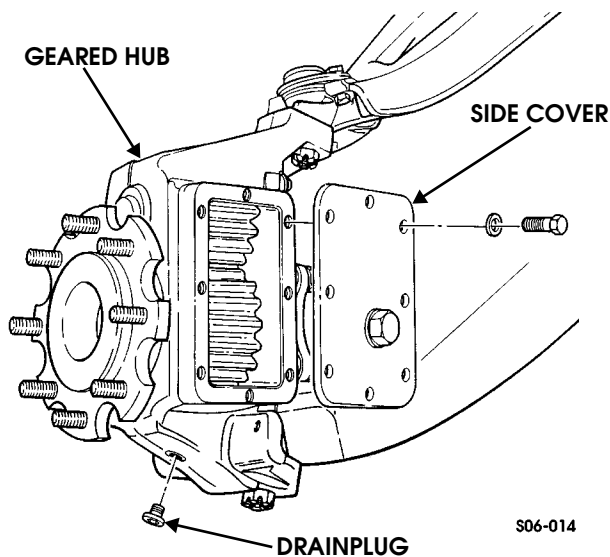

Figure 9-17: Geared Hub Side Cover Replacement
2. Remove drainplug from geared hub and drain geared hub (Figure 9-17).